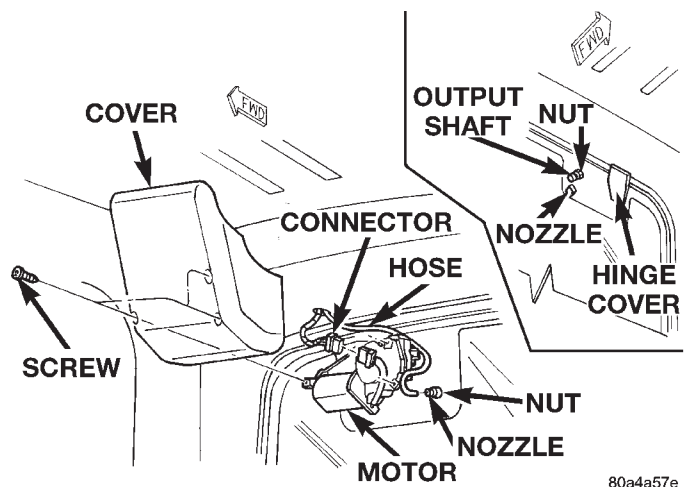

Fig. 19 Rear Washer Nozzle Remove/Install
(2) From the inside of the liftglass, remove the three screws that secure the rear wiper motor cover to the motor (Fig. 19).